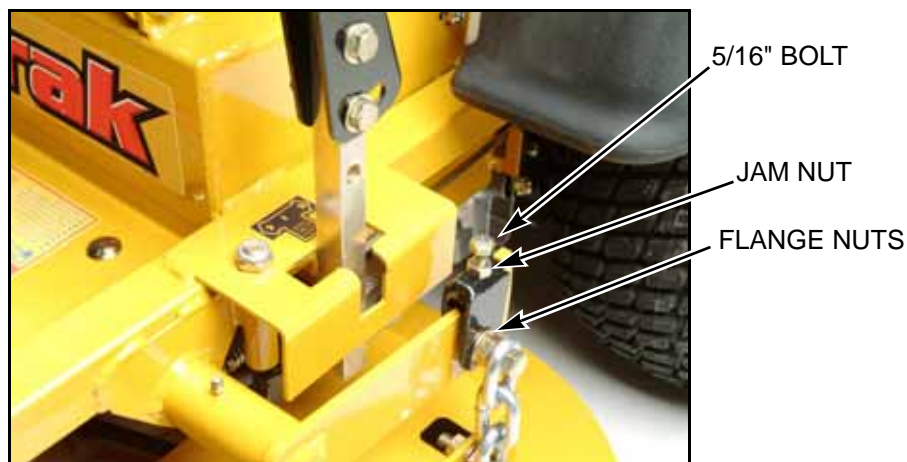

FIG. 32
6. Loosen the left rear deck leveling bracket by loosening the flange nuts. (FIG. 32)
7. Loosen the jam nut and back out the 5/16" bolt on top of the adjuster. (FIG. 32)
9. Tighten the 5/16" bolt on the adjuster until the chain is taut. Tighten the jam nut against the adjuster. Tighten the two flange nuts. (FIG. 32) The deck should now be level.